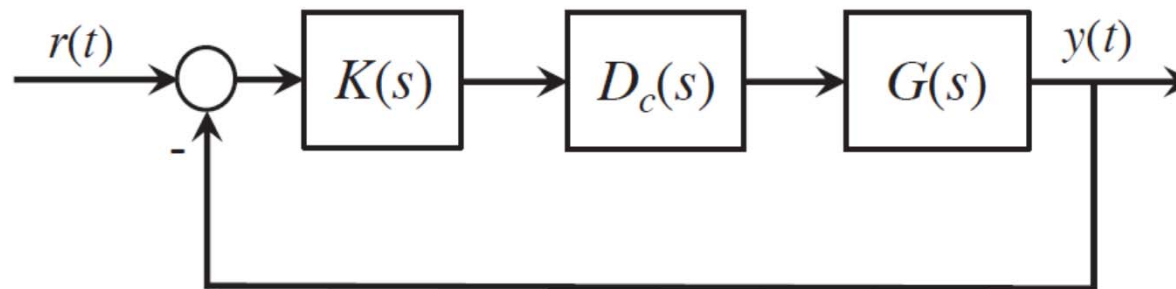

Figure 1: Feedback Control System
5. Consider the feedback control system shown in Figure 1 where  $K(s) = K$  and